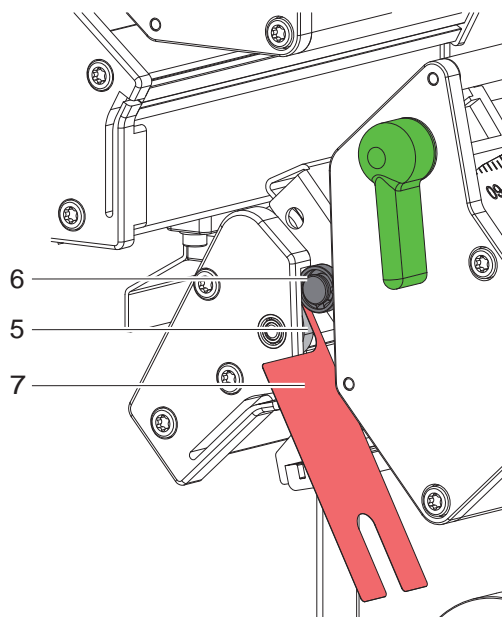

Fig. 31 Checking distance eccentric - ball bearing
9. Check the distance between ball bearing (6) and eccentric (5) with the caliber 0.1 mm (7) ► Fig. 31.